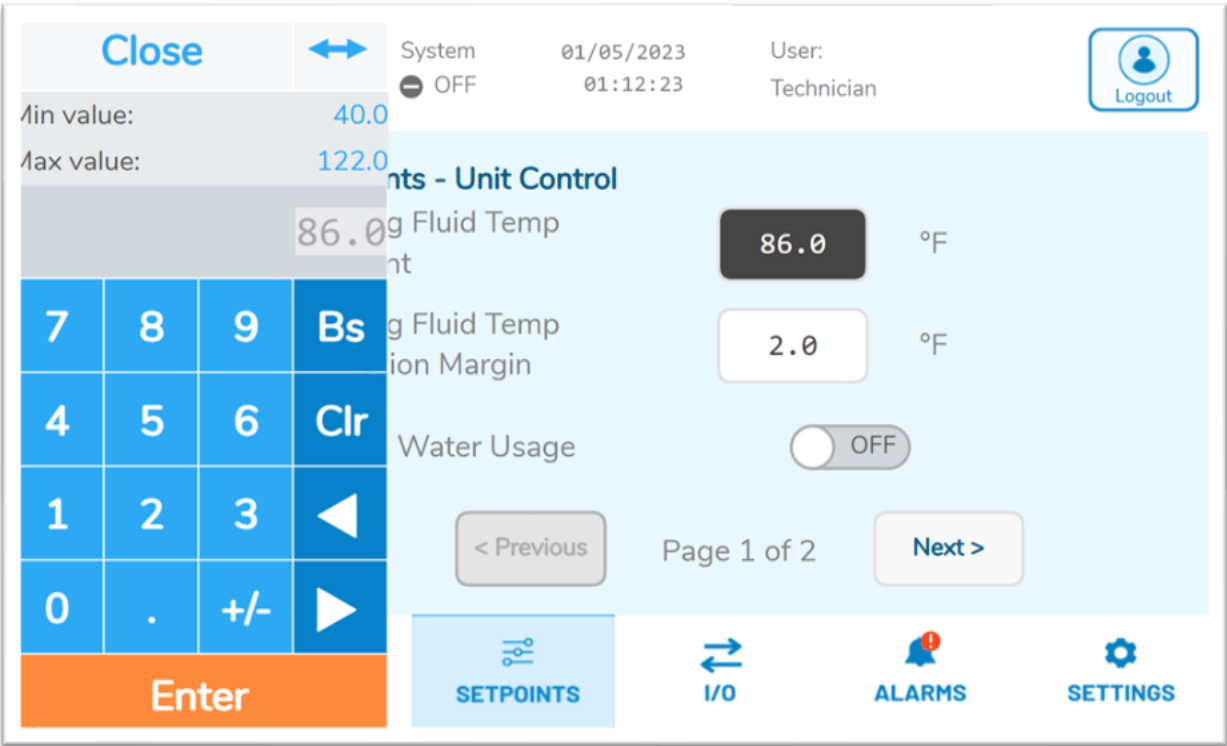

Figure 8. Numeric Pad
2. Press the white box to the right of Leaving Fluid Temp Setpoint and a numeric keypad will appear on the left side of the screen as shown in **Figure 8**. You may select a value between 40.0° F and 122.0° F. If you do not wish to change the setting, press Close at the top of the numeric keypad.